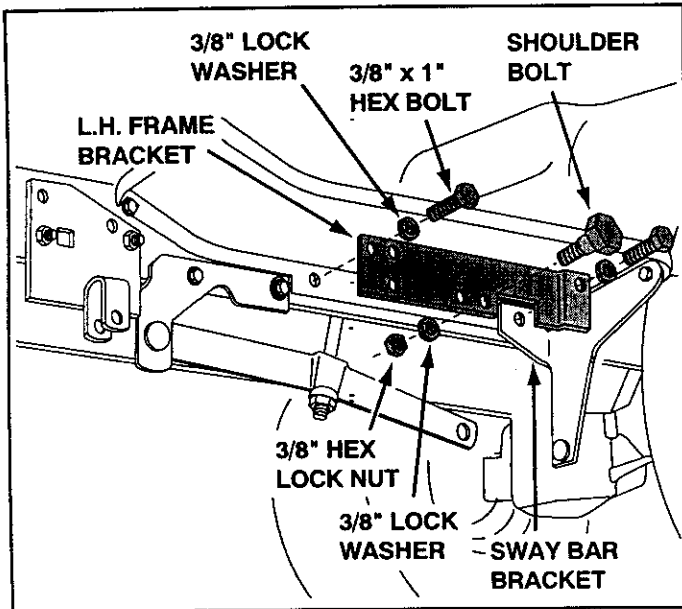

FIGURE 7 LEFT SIDE VIEW
- Assemble the L.H. frame bracket (with bend) to the holes in the bottom of the L.H. foot rest and the sway bar bracket as shown in figure 7. Use two 3/8" x 1" hex bolts and two 3/8" lock washers.
- Assemble a shoulder bolt to the outside of the L.H. frame bracket, securing it with a 3/8" lock washer and a 3/8" hex lock nut. See figure 7.